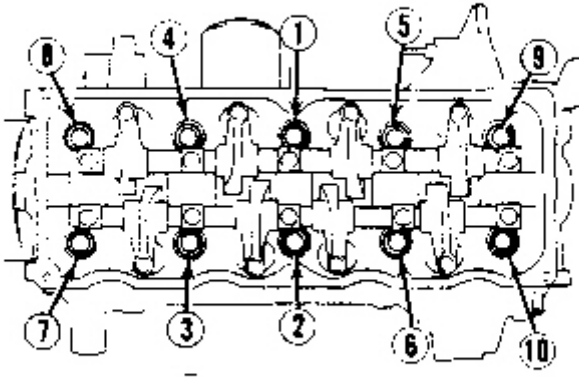

Fig. 1: Installing Cylinder Head Bolts (1.3L)
1. Place new head gasket properly on block. Carefully place cylinder head in position on block. Install head bolts. Tighten bolts in sequence and in 2 steps. See **Fig. 1**. See, at the end of this article, **TORQUE SPECIFICATIONS TABLE**.